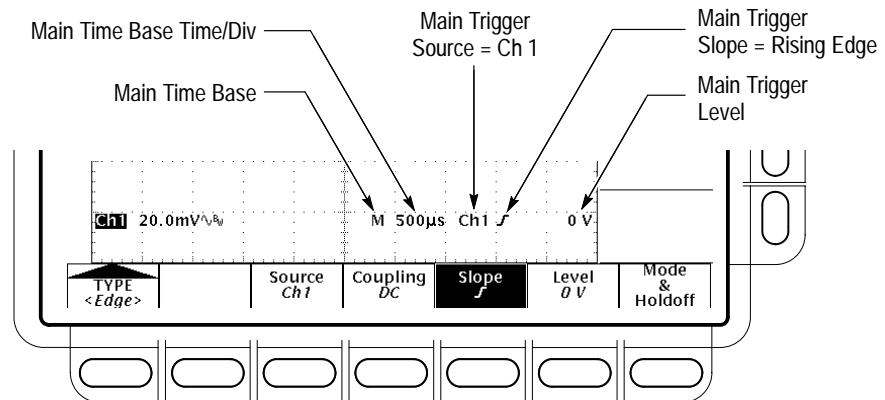

Figure 3-42: Edge Trigger Readouts
**To Check Edge Trigger Status** To quickly check if edge triggers are selected, check the Trigger readout. When edge triggers are selected, the trigger readout displays the trigger source, as well as the trigger slope and level. (See Figure 3-42.)